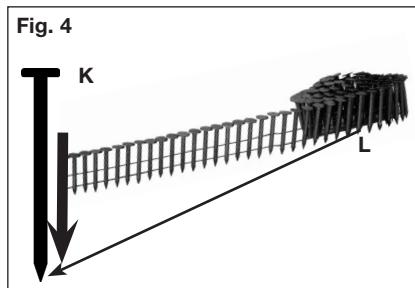

Fig. 4
6. Place the coil on the nail platform (J). **NOTE:** Observe fastener icon (K) Fig. 4. Insert fasteners (L) with points down. **IMPORTANT:** Fasteners must point in the same direction as they will be driven.